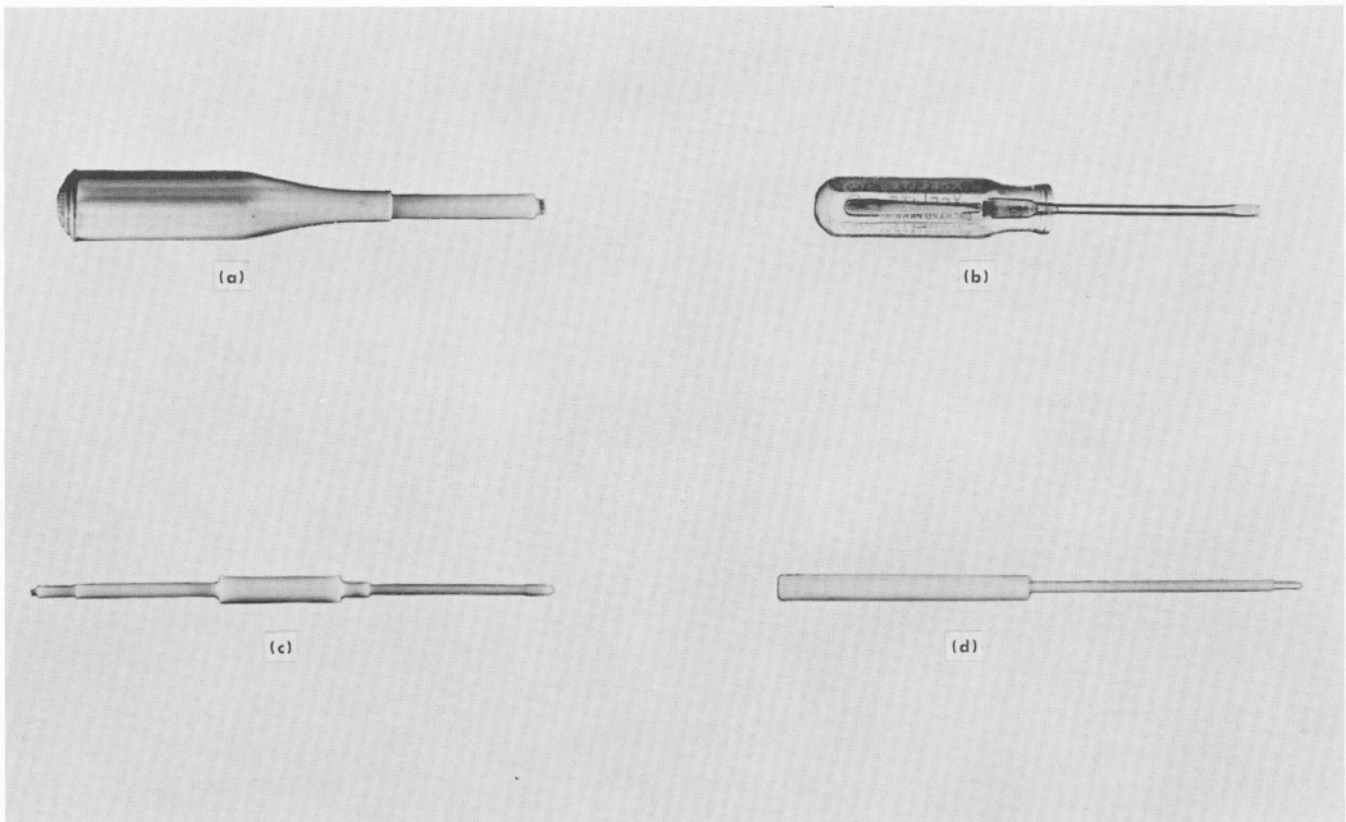

Fig. 6-3. Adjustment tools.
27. Adjustment tools (see Fig. 6-3).